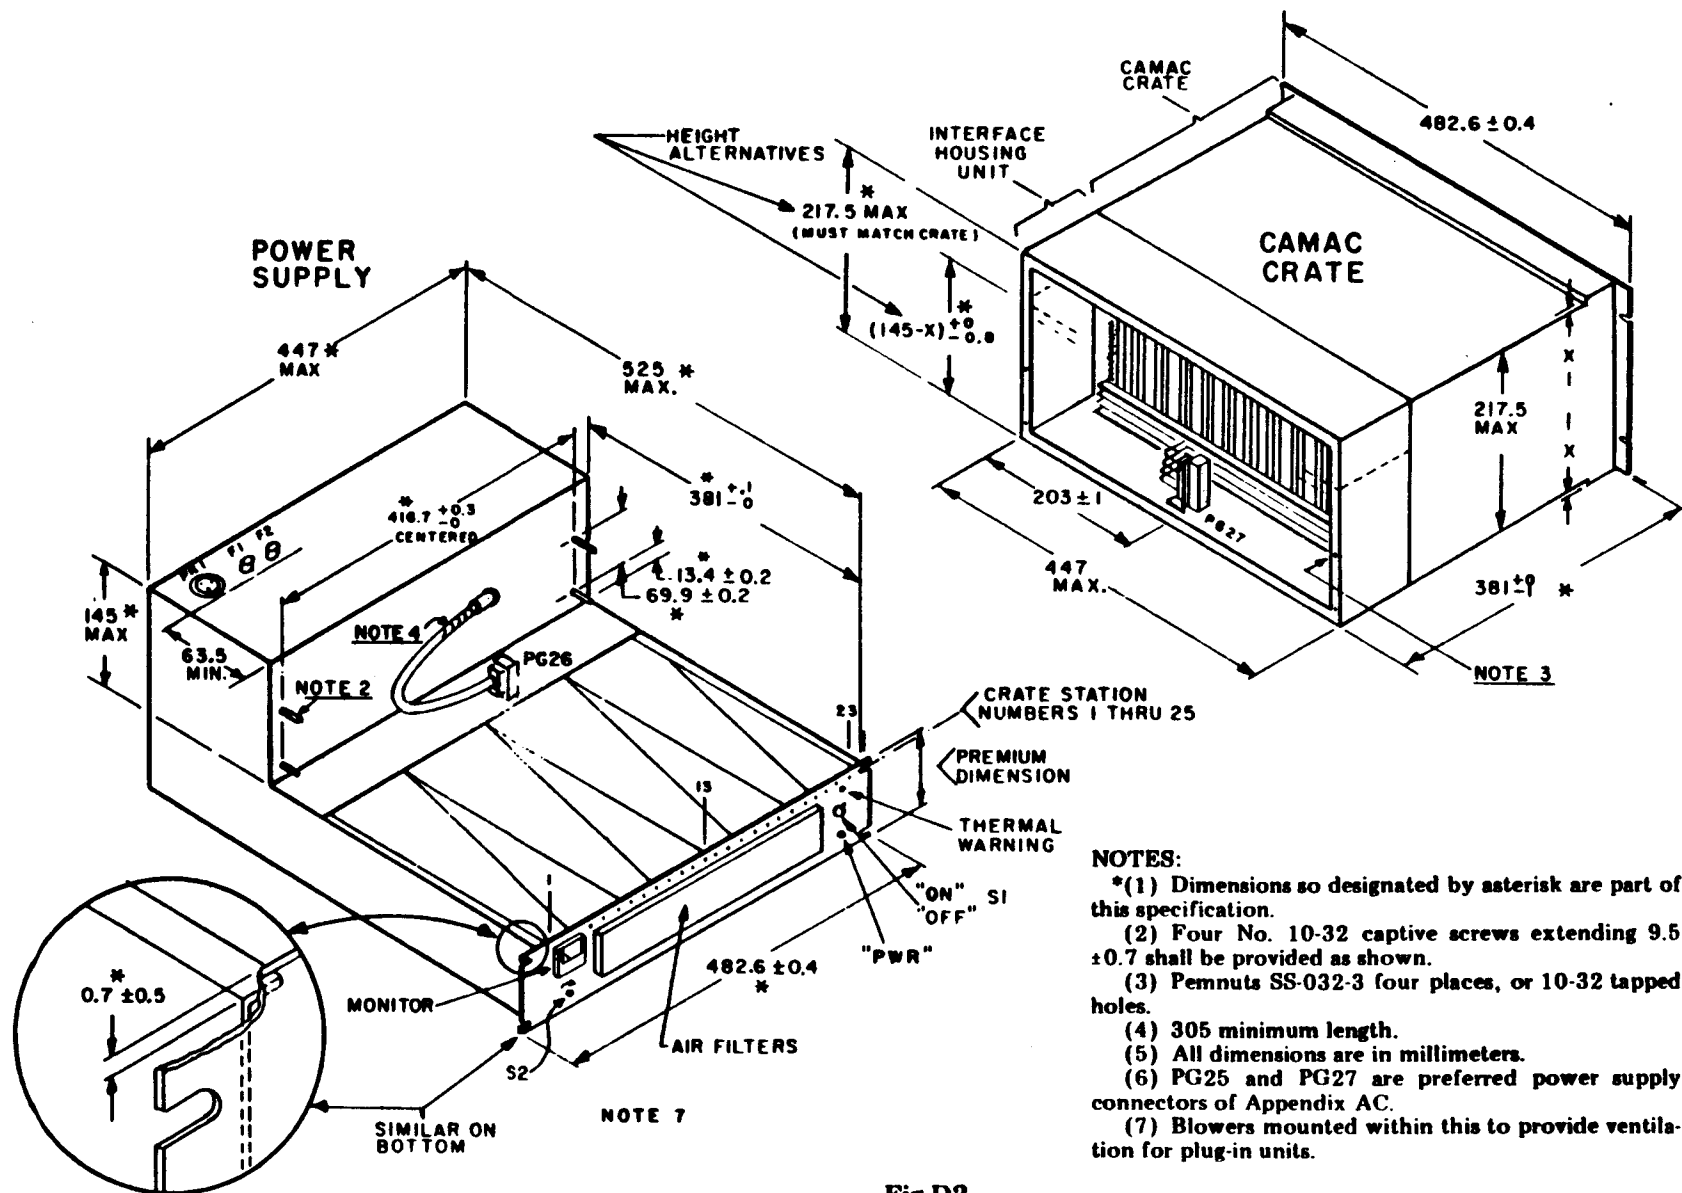

Fig D2
(1) Fig D2 specifies several outline dimensions and component locations to which the unit must adhere.
An interface housing unit is not a part of this specification. The power supply shall, however, be provided with four #10-32 captive screws in the positions shown in Fig D2 as a means of securing to an interface housing unit.
Fig D2 outline dimensions and illustrated unit.
- (1) Optional voltages. Pins reserved for optional voltages not supplied by this unit. If wired, minimum wire gauges shown pertain.
- (2) All pins wired as shown. PG27 and CAMAC crate wiring are not provided with this power supply.
- (3) Sufficient length, positioning, and flexibility to mate with crate connector mounted as shown in Fig D2 (minimum length, 305 mm)
- (4) PG-26—Fixed Member (crate connector) with socket contacts in accordance with Appendix C of IEEE Std 583.
- (5) 24 indicates 24 V line